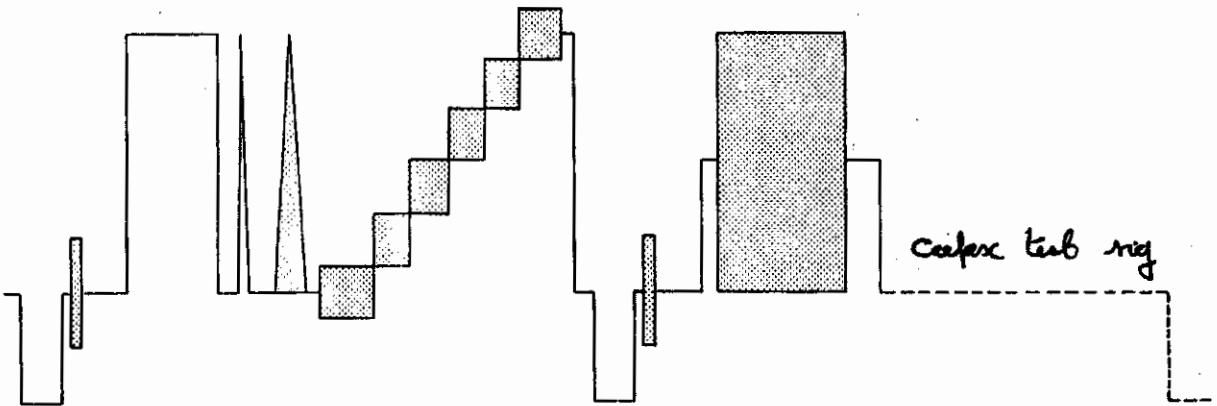

Fig. 2. National Insertion Test Signals.
4. NATIONAL INSERTION SIGNALS(NITS) on lines 19 & 20 (+ 332 & 333) are as shown in Fig. 2.